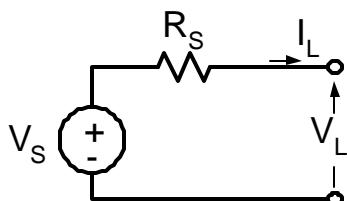

Figure 2.5: Open circuit voltage and current.
- A. Use the HP DMM to measure the open circuit voltage ( $V_L$ ) of the battery as shown below in Figure 2.5. Record its value in Table 1. Do not connect the ampere meter. Record the open circuit current.